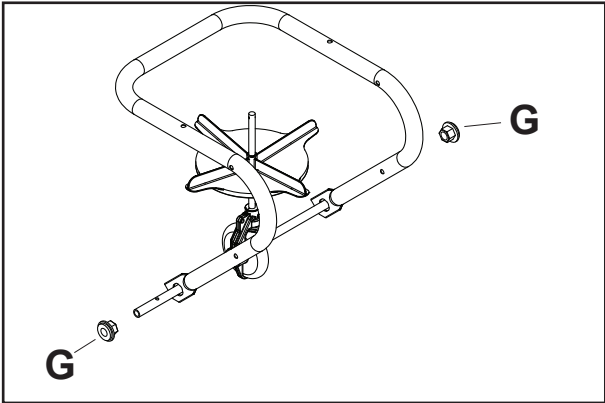

Figure 2
STEP 2 (SEE FIGURE 2): Insert the axle assembly into the frame tube as shown below. (Make sure hole at the end of axle is on the right side). Next slide a hex flange bearing (G) over each end of the axle and secure inside the frame tube.